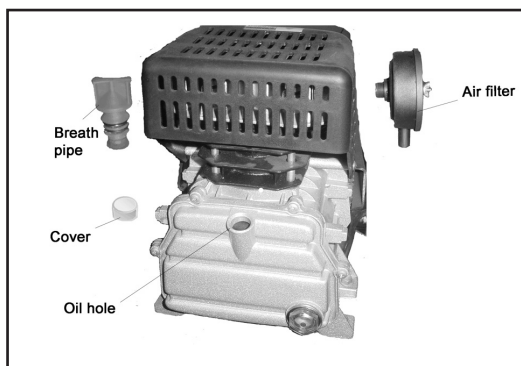

Fig. 4
1. Put the cover off first and put the breath pipe on the oil-hole and set the air filter before the compressor run (Fig.4).